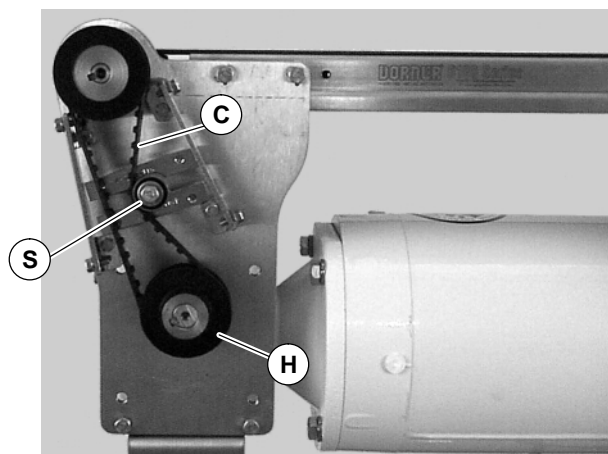

Figure 25
2. Loosen tensioner (S of Figure 25).